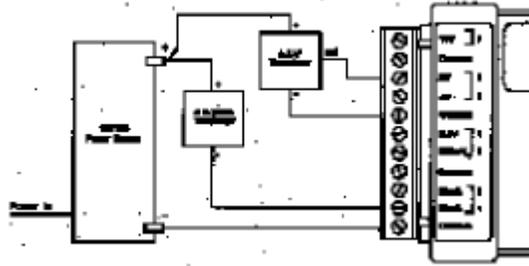

Figure 7-2: Transducer Power Supply Connection
- Decide how you are going to power your transducers (if required). You can, for example, use a standard power supply and create a circuit like that shown in Figure 7-2.